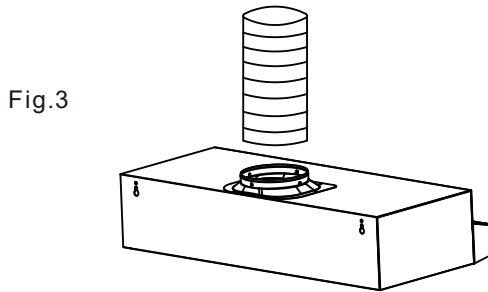

Fig.3
5. Take the hood unit along with the 6" Round aluminum duct or the damper at the top of the hood unit using HVAC aluminum foil tape. (Fig.3)